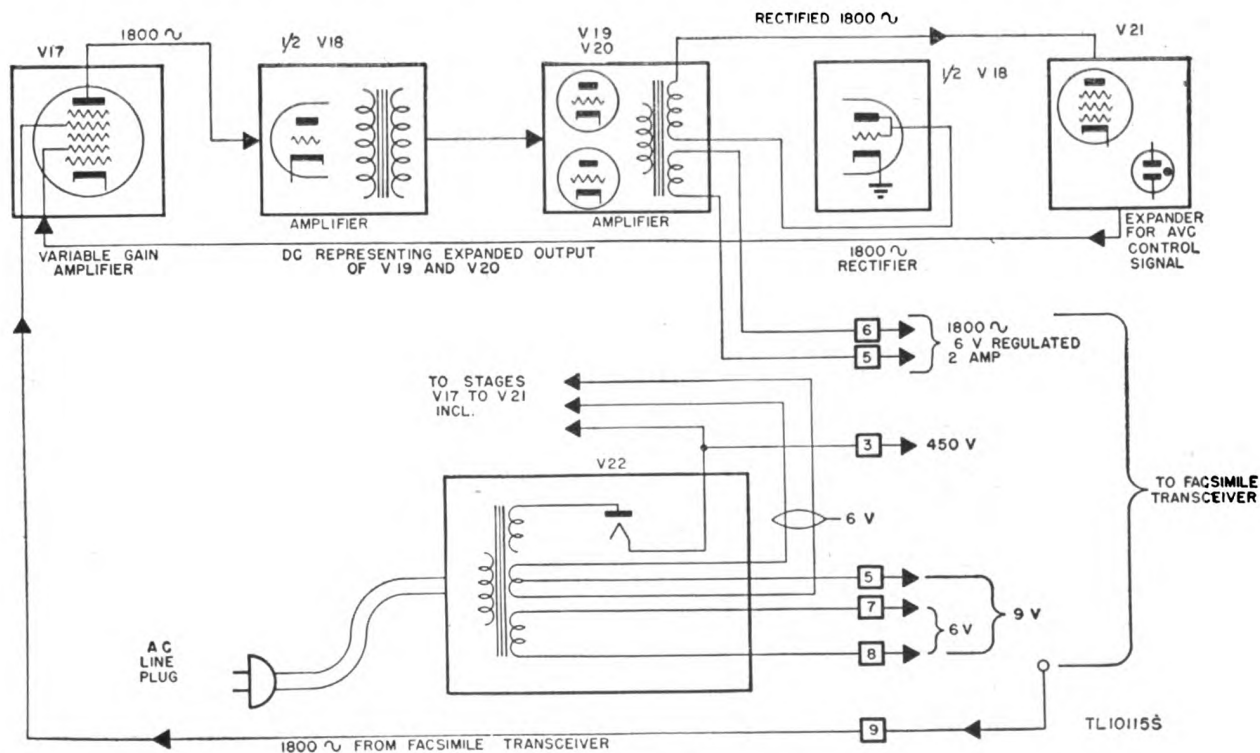

Figure 4. Block diagram of Rectifier Power Supply PE-140.
a. RECTIFIER POWER SUPPLY PE-140 (fig. 4). This unit supplies to the transmitter: